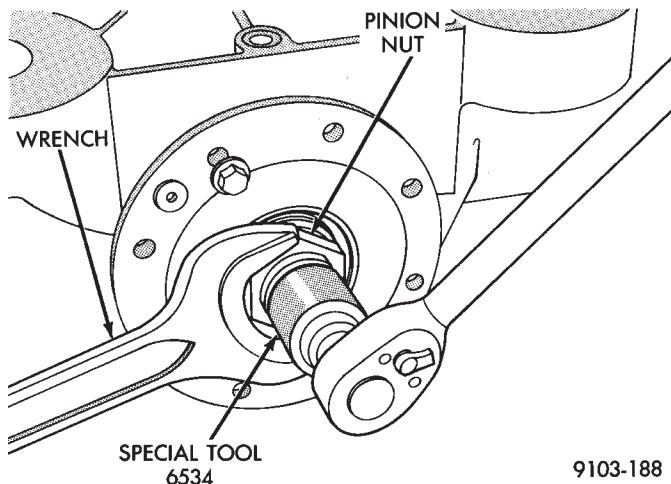

Fig. 5 Remove Pinion Nut
- (6) Using Spline Socket Tool 6534 and a wrench, remove pinion nut (Fig. 5).